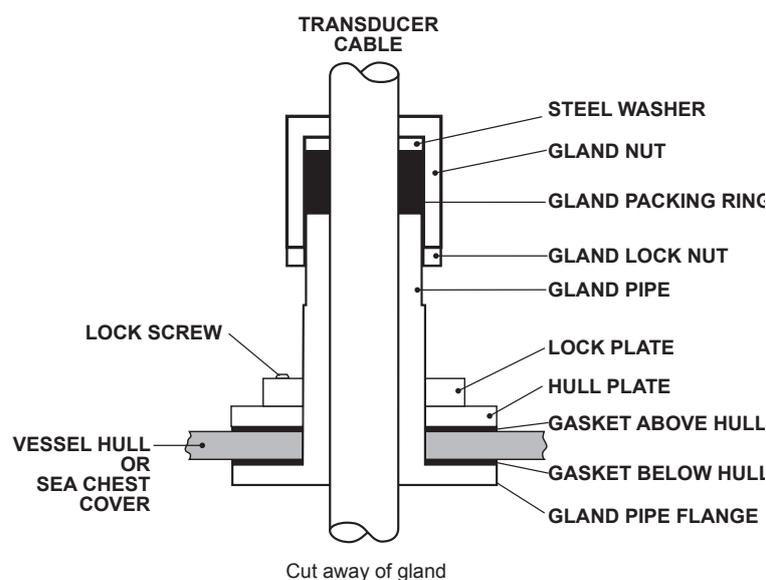

Figure 11. Mounting the Gland Assembly
See "Figure 11. Mounting the Gland Assembly" and "Figure 12. Gland Assembly - Cable Connectors".
- 1 Place the bottom gasket over the gland pipe and apply marine sealant to both sides of the gasket. See Figure 11 below.
Complete fitting and tightening the gland as shown in Figure 11.